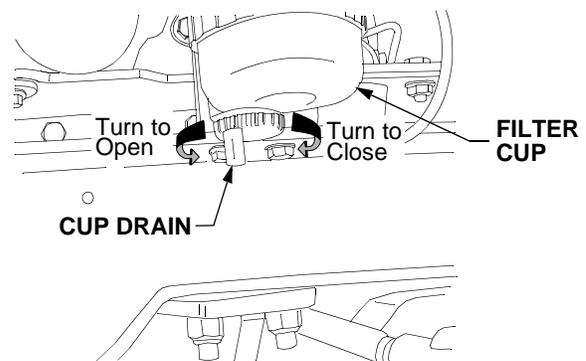

Figure 61
- Turn the cup drain counterclockwise to open. Allow the water at the bottom of the cup to drain until only diesel fuel remains in the cup. See Figure 61.
- Turn the cup drain clockwise to close. See Figure 61.
- Open the cup drain and drain the filter cup into the container below. Close the cup drain. Refer to Figure 61.